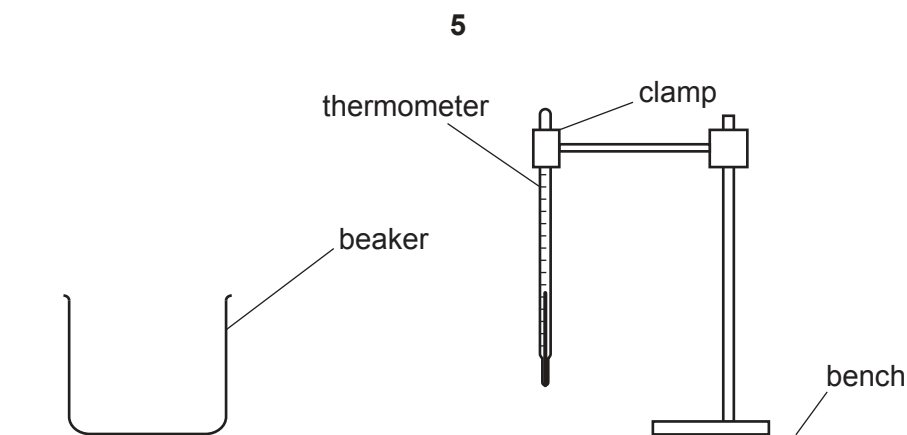

Fig. 2.1
- 2 The thermometer, clamp, boss and stand are to be set up for candidates as shown in Fig. 2.1. The thermometer bulb must be well below the 100 cm³ level of the beaker. Candidates must be able easily and safely to read temperatures up to 100°C and to move the thermometer into and out of the beaker.
Check that the apparatus is intact and is arranged as in Fig. 2.1.